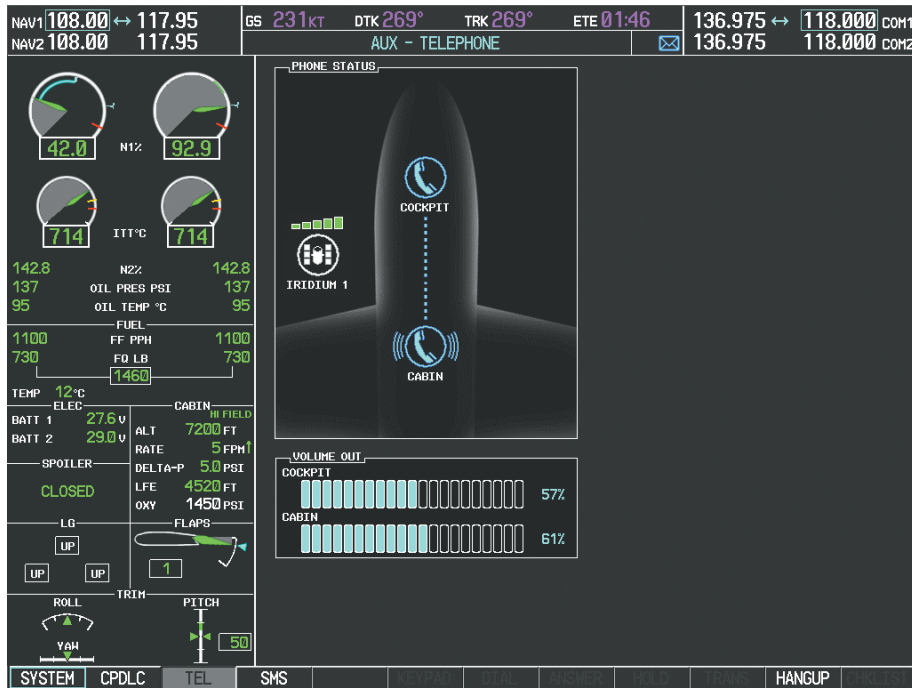

Figure 8-80 Cabin Phone Ringing
- Press the **ENT** Key again. The cabin phone will now ring as seen in Figure 8-80.